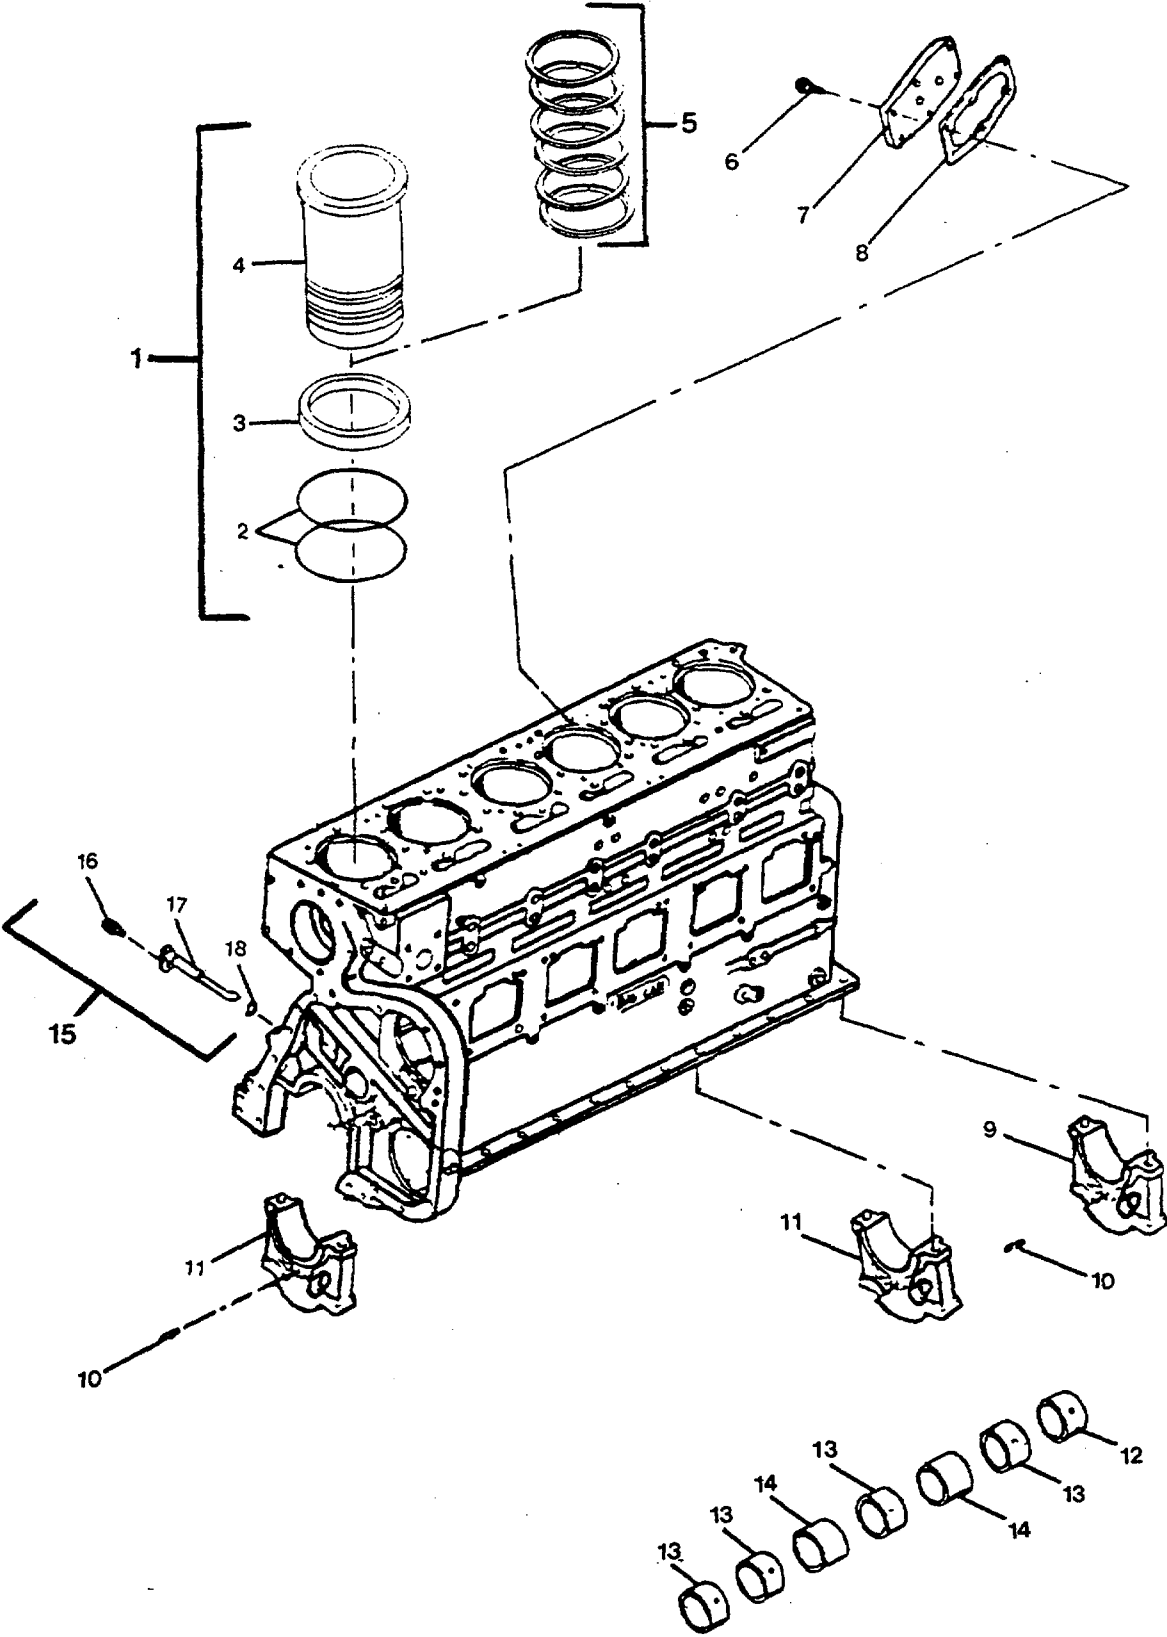
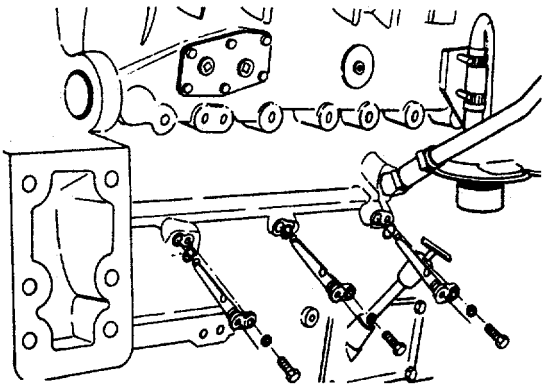

FIGURE 4-47. *Cylinder Block Group.*
FIGURE 4-56. *Piston Cooling Nozzles.*
Repair to the cylinder block group consists of replacing cylinder sleeve assembly (1, Figure 4-47), access cover gasket (8), pins (10), bushings (13, 14), bearing (12) and piston cooling nozzles (15).
- (1) Remove the liner (4, Figure 4-47).
- (d) Remove and discard the preformed packings (2, Figure 4-47) and gasket (3).
Do not discard the shims (5, Figure 4-47) which may be used under the cylinder liner flange.
- Be sure that the cylinder block and all parts are clean before assembly. If used liners are being installed again, any shims (5, Figure 4-47) that were removed must be installed.
- (a) Lubricate new liner preformed packings (2, Figure 4-47) and gasket (3) with vegetable oil.
- (b) Install the performed packings (2) and the gasket (3) as follows:
- 1 Install the gasket (3) in the top groove of the liner (4).
- 2 Install the preformed packings (2) in the center and the bottom grooves.
- b. Remove and inspect the piston cooling nozzles (15, Figure 4-47, and Figure 4-56).
- (1) Remove the six self-backing screws (16, Figure 4-47) and pull the nozzles (17) from the cylinder block as illustrated in Figure 4-47.
- (2) Remove and discard the preformed packing (18).
- (3) Clean the piston cooling nozzles with an approved solvent.
- (4) Blow out the oil passages with compressed air.
- (5) Visually inspect the cooling nozzles for cracks or damage.
- (6) Visually inspect the screws for damaged threads.
- (7) Replace any damaged parts.
- (8) Lubricate the new preformed packing with vegetable oil.
- (9) Install the preformed packing in the groove of the piston cooling nozzle.
- (10) Install the nozzles in the cylinder block.
- (11) Install the self-locking screws.
- c. Replace the camshaft bushings and bearing (13, 14, 12, Figure 4-47).